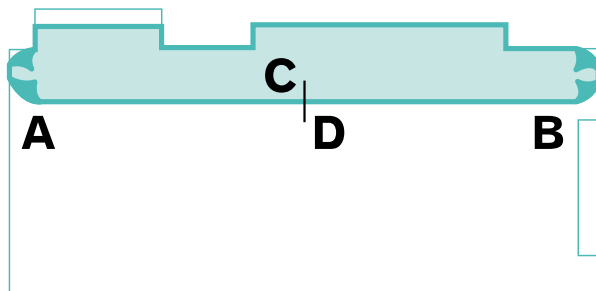

Figure 6.3 Marking the position
- ▶ When satisfied that the fit on the first edge is correct, use a pencil to trace the opposite edge onto the subfloor (line A-B in Figure 6.3).
- ▶ In the centre of the room, draw a line on both the sheet and subfloor square to the main axis of the sheet (line C-D in Figure 6.3).